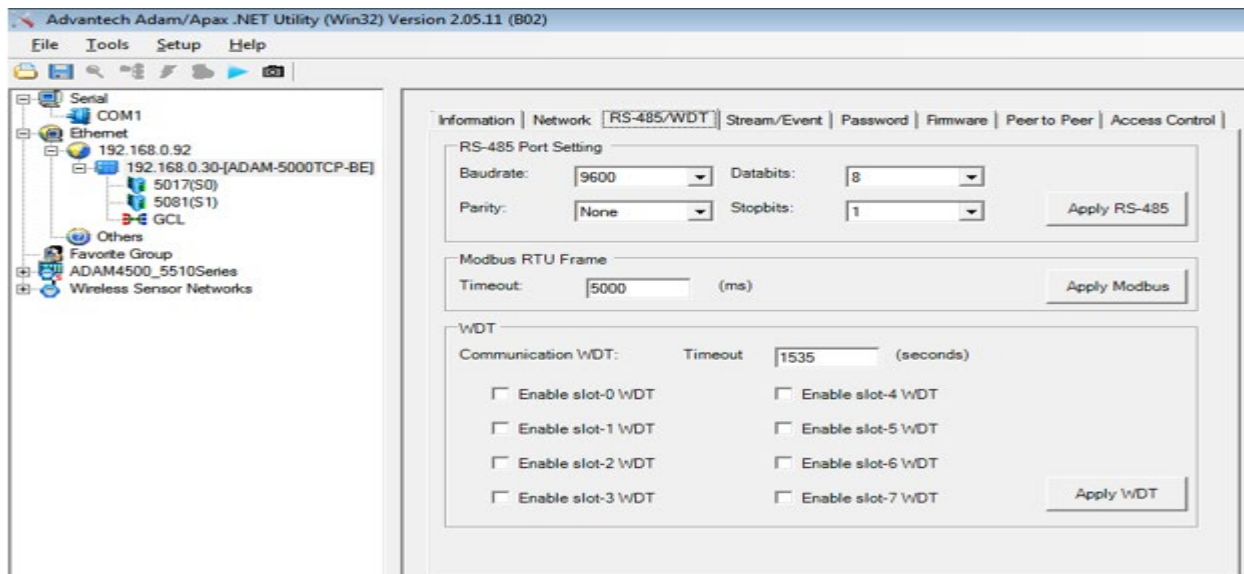

Figure 5 - Solar Radiation Sensor RS-485/WDT Port Settings.
13. Select the **RS-485/WDT** tab and enter the port settings as shown below in Figure 5: